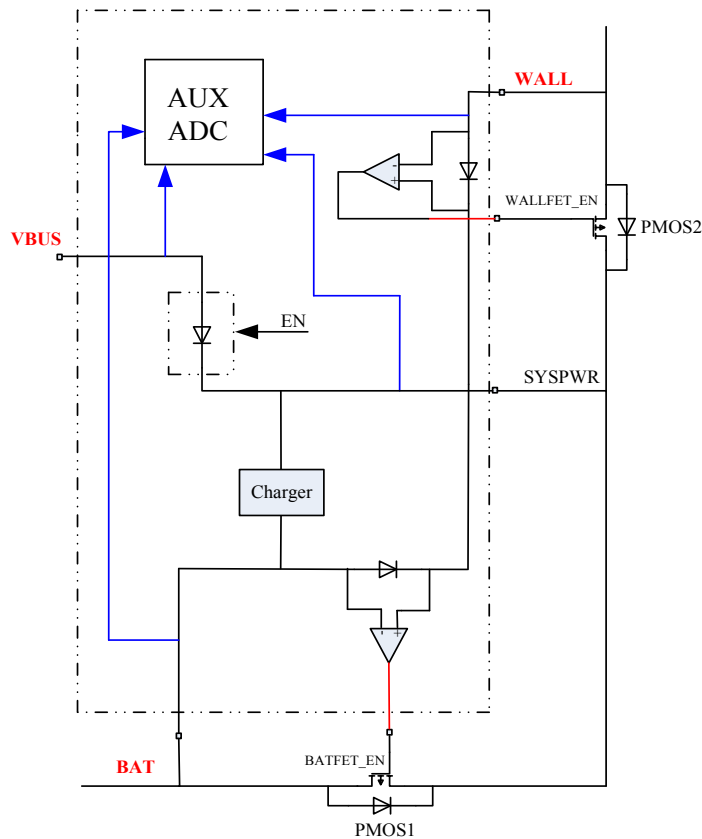

Figure 7-4 APDS Module Diagram
ATC2609 APDS (Adaptive Power Distribute System) block diagram is shown in Figure 7-4 above. SYSPWR is a public power supply node for all the DC-DCs and LDOs. PMU gets power from BAT, VBUS and WALL and then supplies to the public node SYSPWR through a diode respectively in the IC. To prevent current from flowing from VBUS to SYSPWR in OTG application, an enable control pin (EN) is applied to the diode between VBUS and SYSPWR. When this diode is disabled, the path from BUS to SYSPWR will be cut off completely.
MOSFET PMOS1 and PMOS2 are applied to bypass big current, see in Figure 7-4 above. Voltages on BAT, VBUS, WALL and SYSPWR nodes as well as the current flows through each diode are monitored since the system is powered on. Once the output voltage of BAT exceeds the upper or lower settings, PMU will send BAT overvoltage or undervoltage interrupt to INTC module. When the current through BAT path is detected higher than the set value, a BAT overcurrent interrupt will be sent to INTC module, what's more, if this current exceeds overcurrent shut-off value, the power will be forced to shut off to protect IC. If VBUS and WALL are detected overvoltage, undervoltage or overcurrent, the same process will be triggered as BAT does.